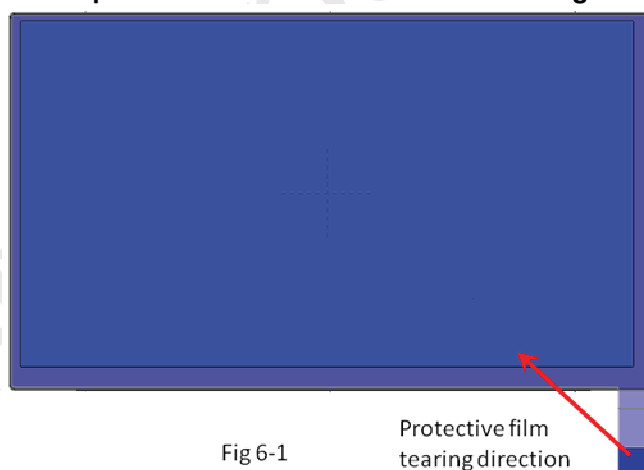

Fig 6-1
8. LCD protective film removal direction as Fig 6-1 shown.